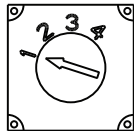

Figure 5: Regulator Voltage Selection Switch
1. Turn regulator over and make sure set point of switch bottom of regulator is appropriate for type of battery used. If necessary, change switch set point. See Figure 5 and Table 1 for voltage set point options.